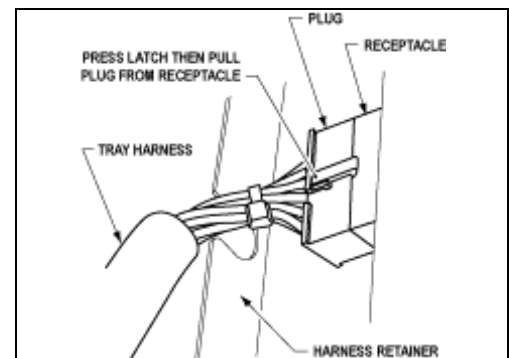

Figure 6a. Tray Harness
2. Disengage the tray harness from its retainer on the right side wall. See Figure 6a on page 7. Disconnect the tray plug from its receptacle on the right side wall.
8. Re-engage the tray harness into its harness retainer. See Figure 6a.
2. Locate the harness retainer on the right sidewall. (Figure 6a). Pull the tray harness out of its retainer.
2. Disengage the tray harness from its harness retainer on the right side wall. See Figure 6a on page 7. Disconnect the tray plug from its receptacle on the right side wall.
6. Extend the slides all the way to the front and reinstall the tray. Install the four (4) nuts underneath the drawer slides.
7. Reattach the tray harness to its harness retainer on the right side wall. Connect the tray plug to its receptacle on the right side wall. See Figure 6a.